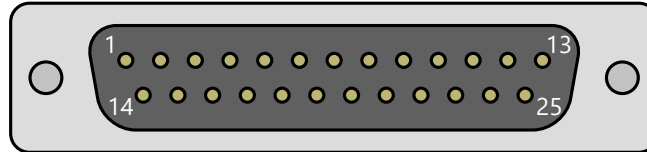
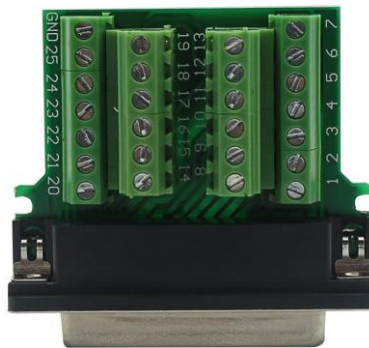

Figure 1: Male DB25 connector pin layout
Figure 2: Male DB25 field splice connector pin layout
**Step 2:** Hold the DB25 connector so you are looking at the pins with them pointing at you or open the back shell of the DB25 field splice. If prodding the pins directly, orient the connector so the row with 13 pins is on top, now the upper left-hand pin is pin 1. See **Figure 1** (above) for reference. If you decide to open the case of the connector, reference the pin number marking on the PCB (see **Figure 2** above).